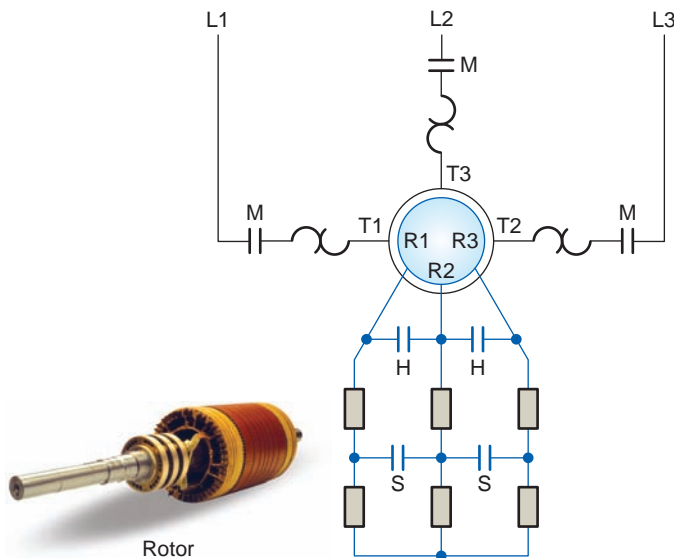

Figure 8-45 Wound-rotor magnetic motor controller.
Figure 8-45 shows the power circuit for a wound-rotor magnetic motor controller. It consists of a magnetic starter (M), which connects the primary circuit to the line, and two secondary accelerating contactors (S and H), which control the speed. The operation of the circuit can be summarized as follows: